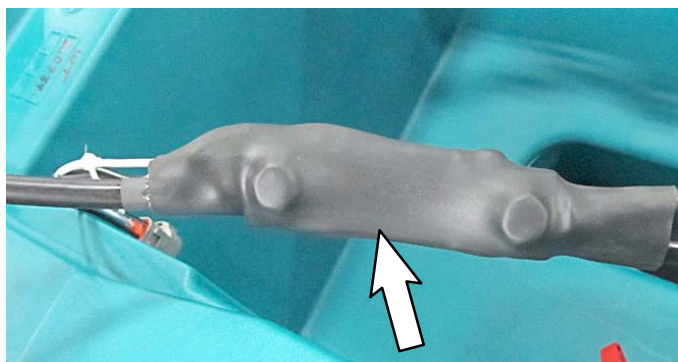

FIG. 20
23. Slide the heat shrink (24) over the shunt and apply heat (FIG. 20)